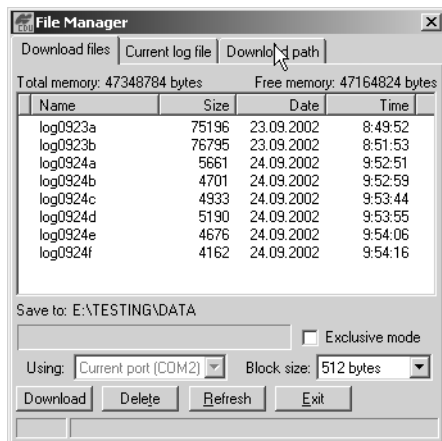

Figure 4-4. Find Files to Download
4. Click the **Download path** tab on the File Manager dialog box (Figure 4-4).